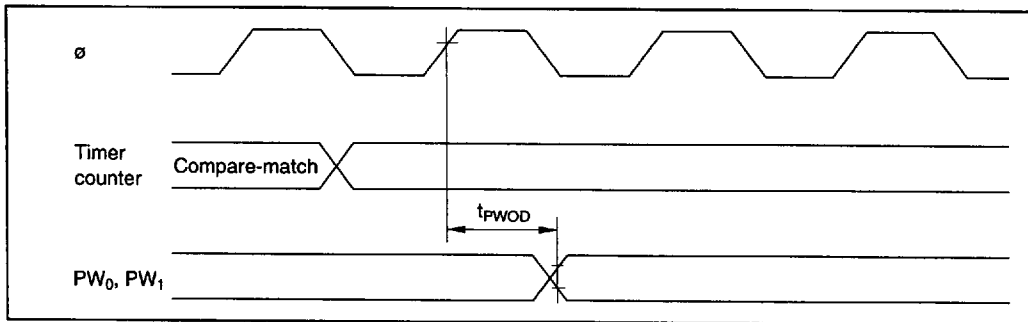

Figure 22-15 PWM Timer Output Timing
22.3.5 PWM Timer Timing	Figure 22-15